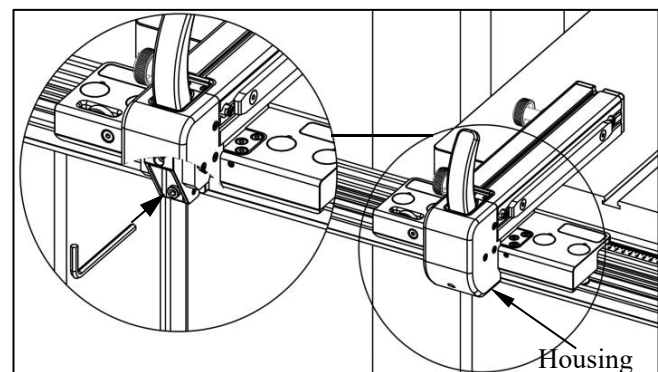

Fig. 19
- Lift the Locking Lever to release the fence locking tension then access the tensioner screw (see Fig. 19).